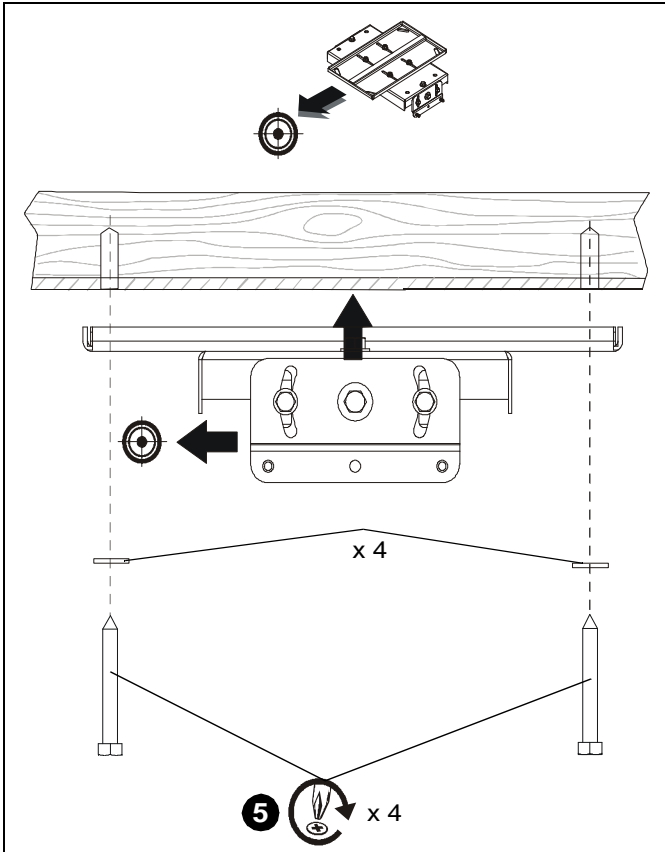

Figure 4
- Align four mounting holes in LPK1 with four pilot holes. (See Figure 4)
- Secure LPK1 to structure using four 5/16" flat washers and four 5/16" x 2-1/2" hex head lag bolts (not included). (See Figure 4)